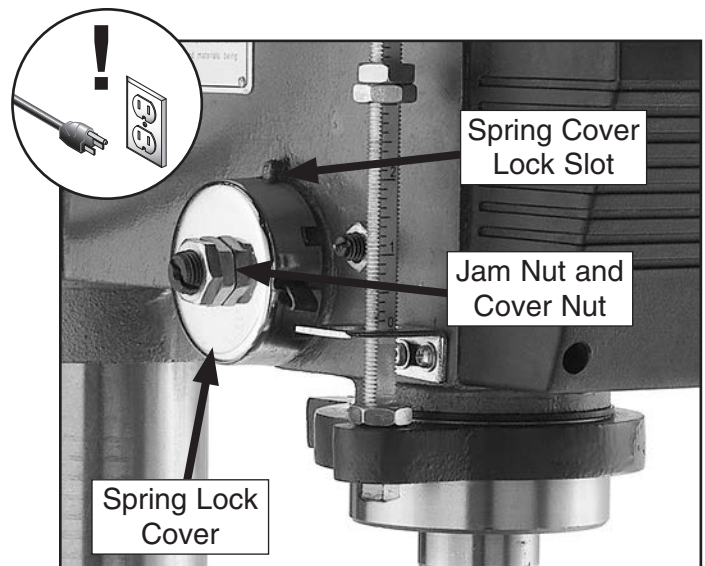

Figure 47. Feed shaft return spring assembly.
2. Wipe off any oil on the spring lock cover so it does not slip in your fingers when you hold the cover from spinning (see **Figure 47**).